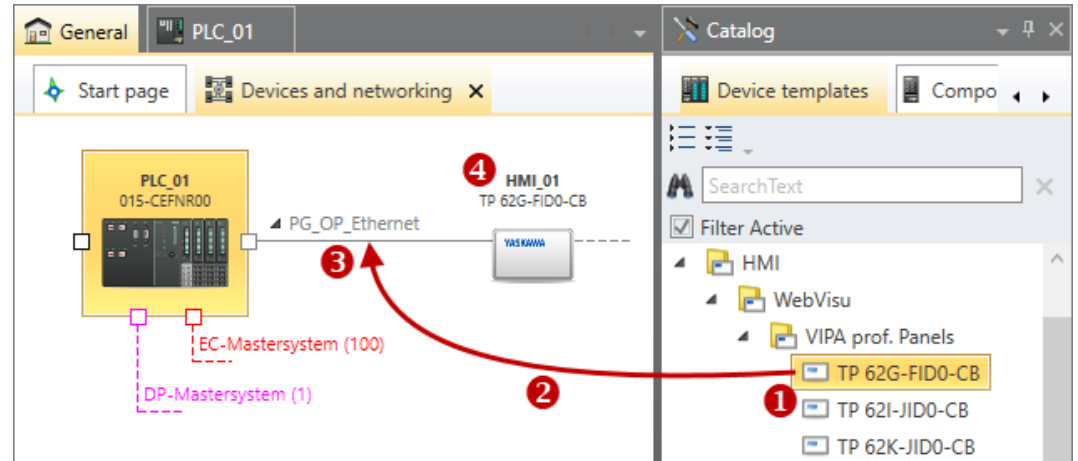

Fig. 59: Adding HMI device via "Catalog"
- **Catalog:** Drag the desired HMI device from the 'Device templates' register of the catalog (↪ *Chap. 4.10 'Catalog' page 34*) to the connecting line "PG_OP_Ethernet" in the 'Devices and networking' editor. Fig. 59